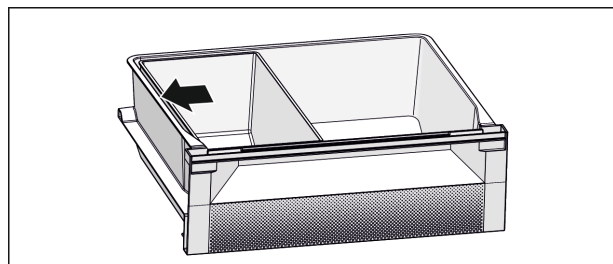

Fig. 7
- For an optimum cooling function: Position Fish & Seafood tray according to illustration (see Fig. 7) .